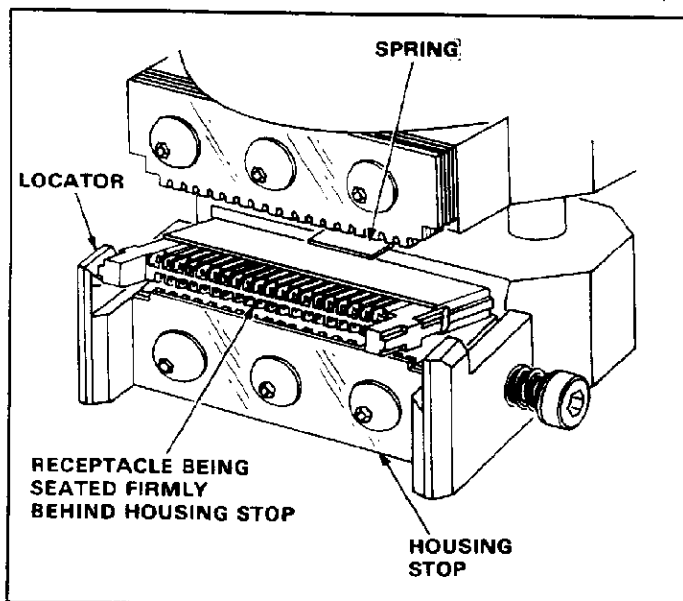

Fig. 4
6. Locate a receptacle housing of appropriate size on lower die subassembly: slip mating face of housing under spring and push housing toward applicator, pressing downward (Figure 4). The spring-loaded locators will spread outward, allowing the housing to seat firmly behind the housing stop.
1. Refer to Figure 4, and *locate* housing on lower die as described in Paragraph 3, APPLICATOR SETUP, Step 6.